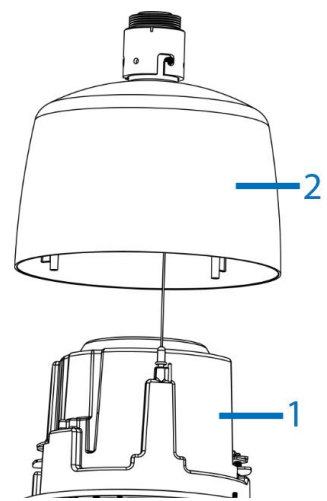

Figure 9
- Place the camera housing (1) (Figure 9) up into the pendant mount (2) (Figure 9) and pull the power cables through the hole in the camera housing.